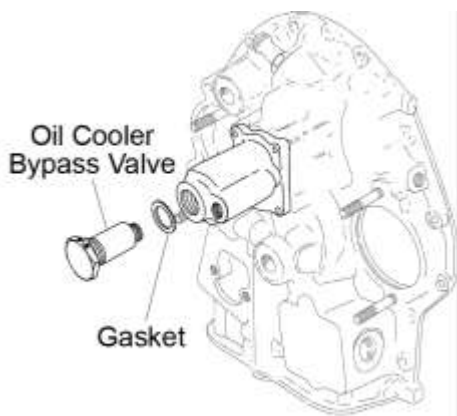

Figure 8
On engines with an oil pressure screen (Figure 8). Remove the oil cooler bypass valve and gasket from the oil pressure screen housing. Discard the gasket.
On engines with an oil pressure screen (Figure 8):
- Install the oil cooler bypass valve with a new gasket on the oil pressure screen housing (Figure 8).